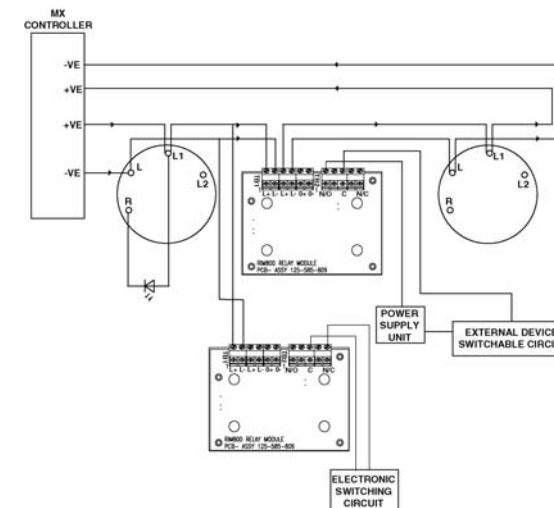

Fig. 3 EV-OP Simplified Wiring Diagram
- 3) See Figure 3 for EV-OP Simplified Wiring Diagram.